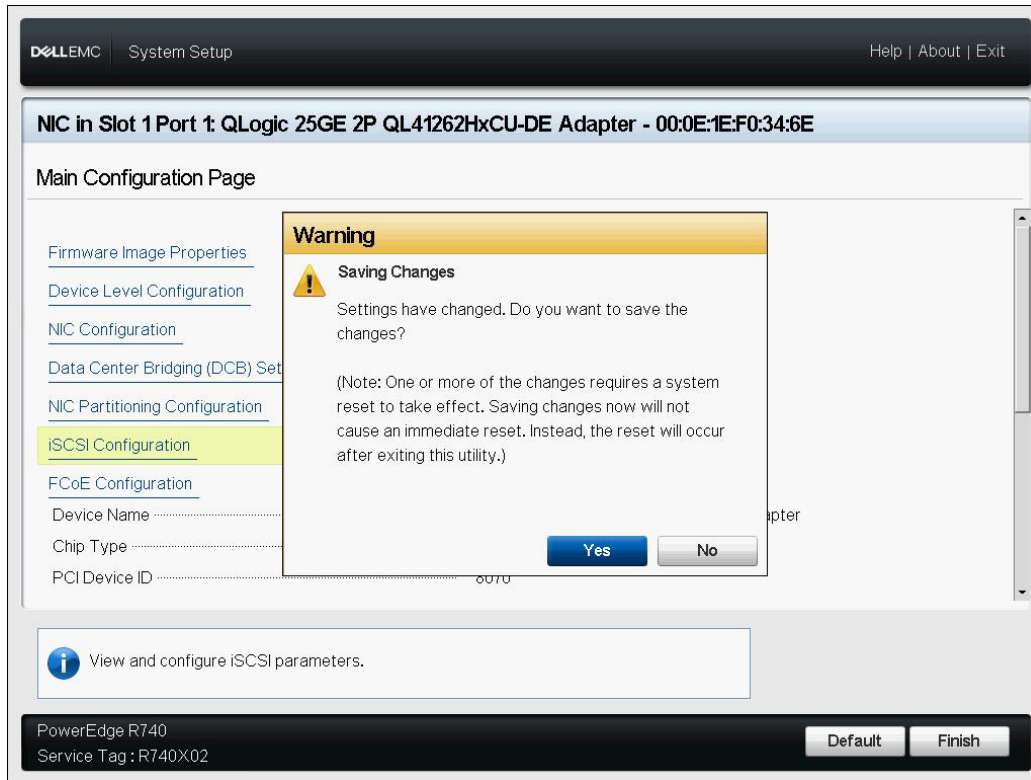

Figure 6-13. System Setup: Saving iSCSI Changes
14. Click **Yes** to save changes, or follow the OEM guidelines to save the device-level configuration. For example, click **Yes** to confirm the setting change (Figure 6-13).